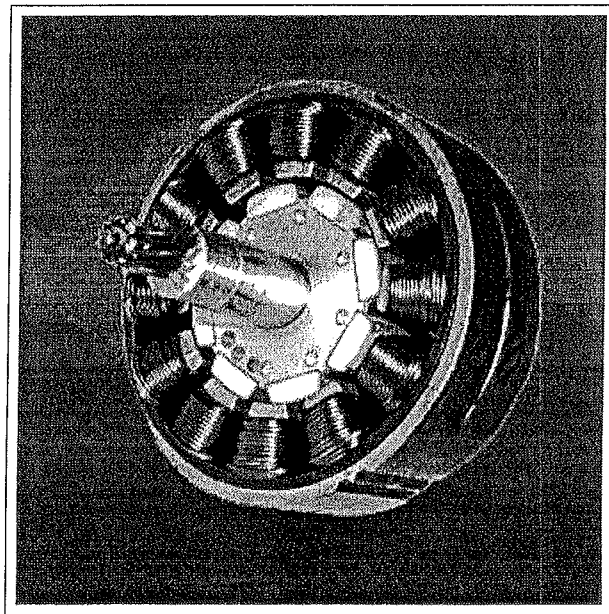

Fig. 1
(b) Induction motors commonly have a small airgap. Permanent Magnet (PM) motors typically have a large airgap and come in several types. One such *in runner salient pole* motor, with concentrated windings around a simple pole structure is shown in Fig. 1. Sketch the magnetic equivalent circuit for the PM system and show that a small airgap is not necessary to maximise the airgap energy. Contrast this fact with that for the induction motor. [40%]